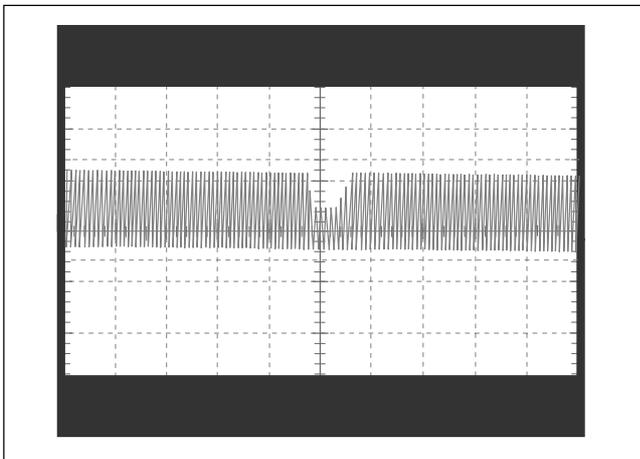
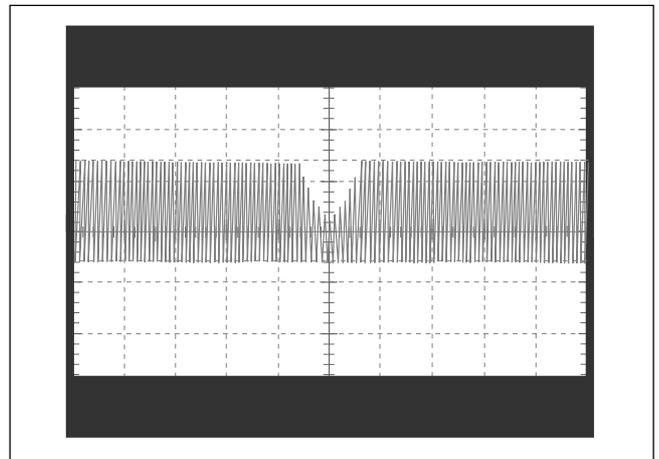

Fig. 16
Fig. 17
- Adjustment is satisfactory if the waveform is almost the same as the waveform shown in Figure 16. (The adjustment is insufficient if the waveform is the waveform, near an acute angle, shown in Figure 17. Perform focus adjustment again.)